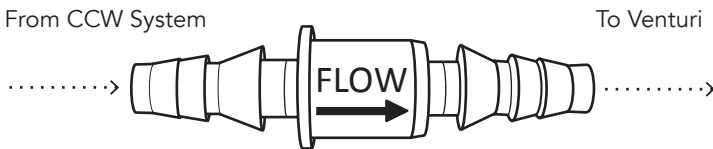

Figure 5: 1/4" One-Way Air Check Valve
3. Install 1/4-inch one-way air check valve (supplied) in between the Clear Comfort system and the Hartford loop to eliminate any potential water backflow. See Figure 5 below.